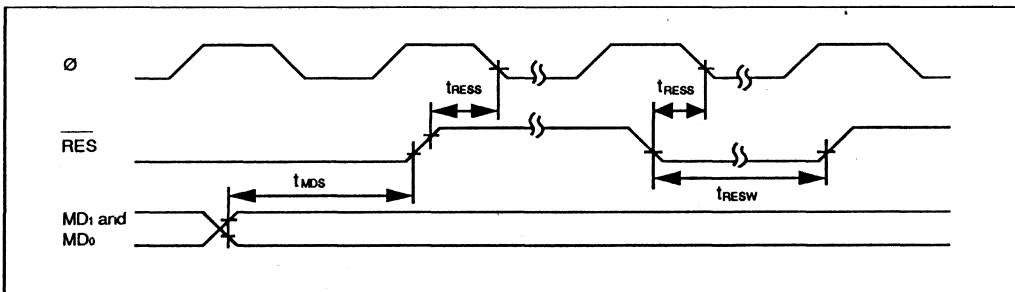

Figure 17-7. Reset Input Timing
17.3.2 Control Signal Timing	Figures 17-7 to 17-10